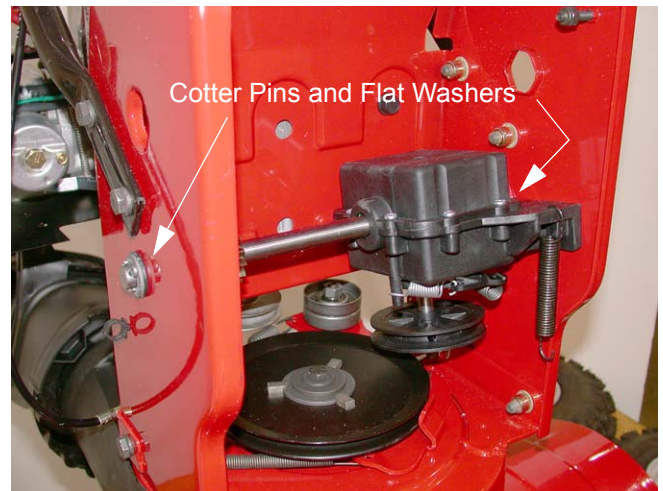

Figure 9.7
- 9.7. Remove the cotter pins and flat washers securing the transmission mounting axle to the drive housing. See Figure 9.7.